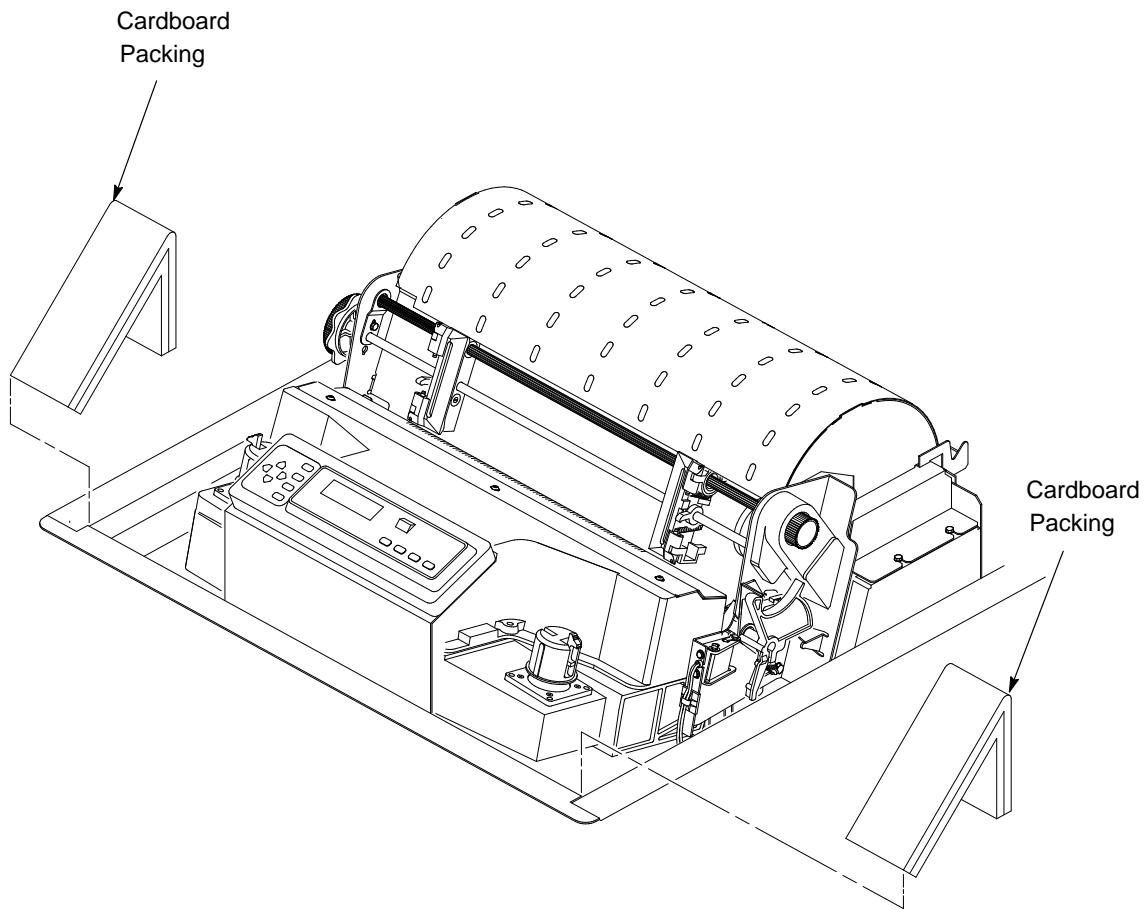

Figure 2-3. Removing the Cardboard Packing
1. Remove the cardboard packing. (See Figure 2-3.)